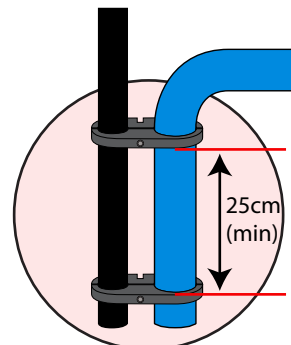

Fig 3.
4. Repeat the process with the second clamp further up the barrier upright. This must be on the vertical section, not the curved and a minimum of 25cm above the first clamp. (see fig 3)